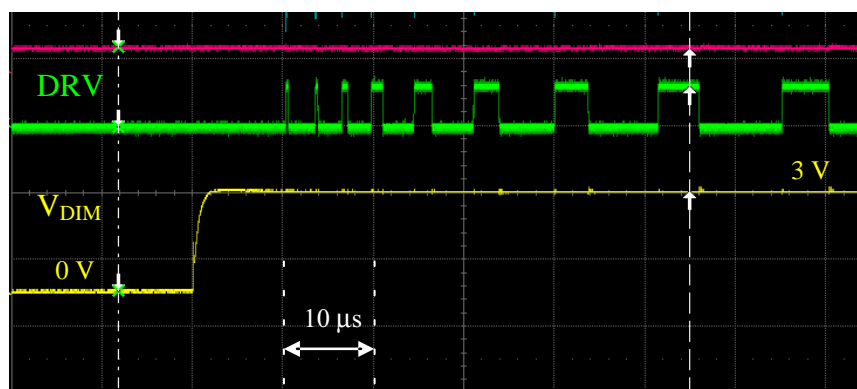
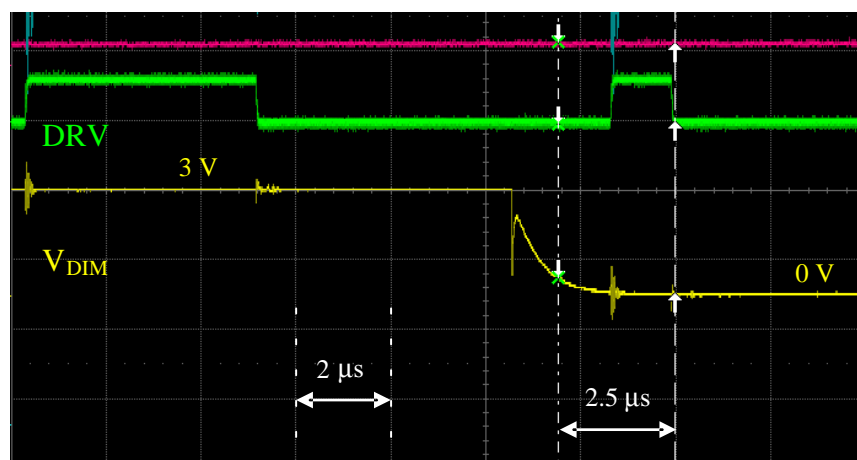

Figure 12. PWM Dimming – DIM Pin Rising Edge
Figure 13. PWM Dimming – DIM Pin Falling Edge
- The NCL30086 needs some time to provide the full current. As shown by Figure 12, the first drive pulse
- As illustrated by Figure 13, it takes about 2.5- μ s time to have the drive output disabling when the DIM pin transitions to low state. The practical effect of this delay depends on when the last drive pulse occurs compared to the DIM signal falling edge but in general, it cannot compensate for above one.
115 V rms, 60 Hz. The dimming signal was a 1-kHz, variable duty-ratio square-wave signal varying between 0 and 3 V (yellow signal of Figure 12 and Figure 13).